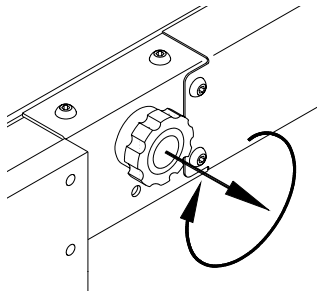

FIGURE 2-12: CLOCKWISE CLOSES ROLLSTOP
- 2) Refer to **Figure 2-12**. Verify that rollstop is up (closed). Pull rollstop control knob out and rotate fully clockwise, if it isn't up.
- 1) Refer to **Figure 2-12**. Verify that rollstop is up (closed). Pull rollstop control knob out and rotate clockwise, if it isn't up.